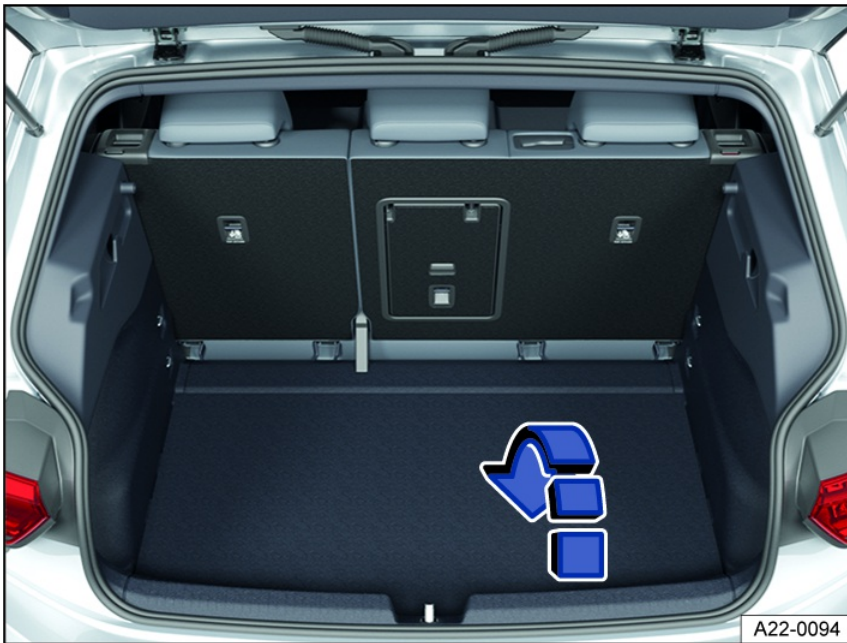

Fig. 116 In the luggage compartment: Luggage compartment floor (general example).
1. Grasp the recessed grip in the luggage compartment floor and lift up the rear part of the luggage compartment floor in the direction of the arrow *fig. 116*.